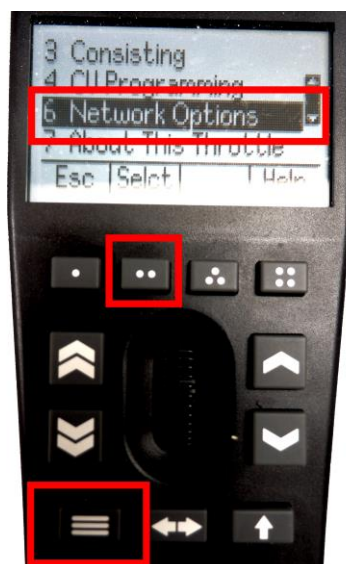

Figure 16 Selecting the Network Options menu on the UWT-100
- (1) Press the menu button (3 horizontal lines), then the Network option (6) as in Figure 16.